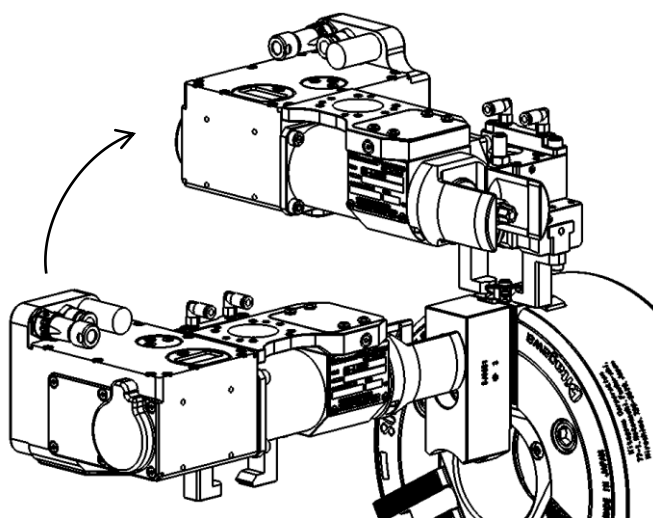

Figure 35
- The adjustment can be made easily by rotating it 90° from the bolt tightening/loosening position. (Figure 35)
- ③ Open and close the gripper, and move the BR-AJC end effector to the position where the gripper does not deflect.
- ④ Loosen the jaw mounting bolt about one and a half to two turns.
- ⑤ Close the gripper and confirm that the jaw can be inserted/removed smoothly.
- ⑥ If you feel resistance, make fine adjustment to the position of the BR-AJC end effector.